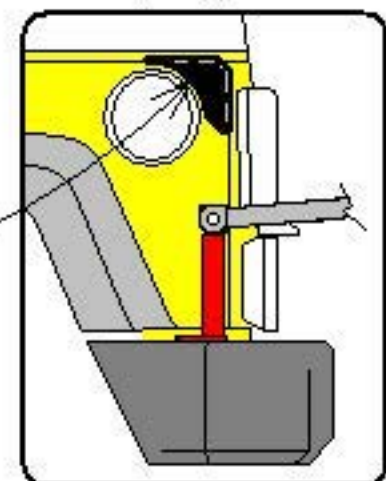

Fig. 12c
- 17- Refer to page 8 Fig. 12b loosen jam nut (9) and turn Anti-sway isolator knob (9a) counter clockwise to pull the isolator (21) away from vehicle body. Remove from Bag #3 two black adhesive backed triangular wear plates. As shown on page 8 Fig. 12b and 12c without removing the adhesive protective film from the wear plates position the plates over the rear upper corners of the vehicle body just behind each Anti-sway isolator as shown in Fig 12c. Match the bends of the wear plate tightly to the angles of the vehicle body. Once you have a good idea of the wear plate's final position clean the area thoroughly with denatured alcohol remove the adhesive protective film and press in place. Apply the same procedure to the opposite side.
- 18- Tighten both Anti-sway isolators (21) in place by turning knob (9a) clockwise. As you tighten each isolator pull out on the support bar "C" so that a fair amount of tension is exerted against the wear plate. Apply the same procedure to the opposite side. This will prevent excessive movement or sway of the roof rack's rear section during use. Once both isolators have been adjusted tighten jam nut (9) clockwise to prevent loosening of the Anti-sway isolators. Installation is now completed.